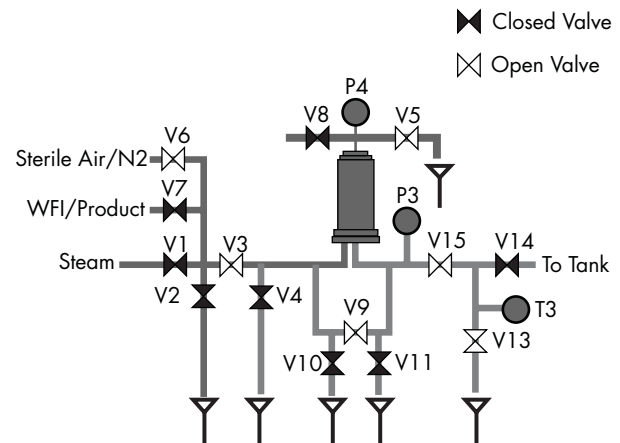

Fig 3: SIP Cooling Configuration
2. Allow steam to purge from all bleed valves. Increase the flow of gas through the system by closing valves V2, V4, V10, and V11 (Figure 3). Maintain the sterile gas flow until temperature gauge T3 reads approximately 30°C.